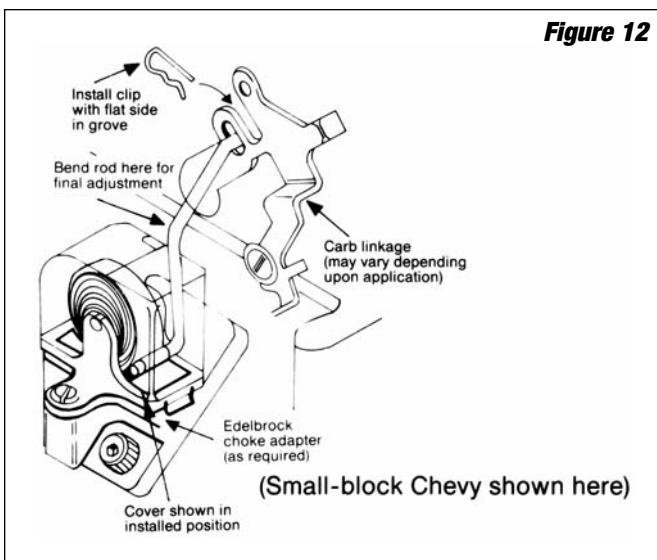

Figure 12
1. There will be an index mark on the choke cap and there will be adjustment notches on the choke cap housing. For initial setting make sure index mark is in the center of the adjustment notches (**See Figure 12**).
5. Insert plain end of Edelbrock choke rod in rolled eye of spring and clip end in carburetor linkage. See Figure 12.
6. Open throttle by hand and push on choke blade. By bending link, adjust to the same pre-load condition that you felt with the stock manifold. **See Figure 12.**
7. When pre-load is set, remove link from carburetor end. Slide cover over link to base. Push down on cover until it snaps in place. **See Figure 12.**
8. Replace clip end carburetor linkage and install clip furnished. **See Figure 12.**